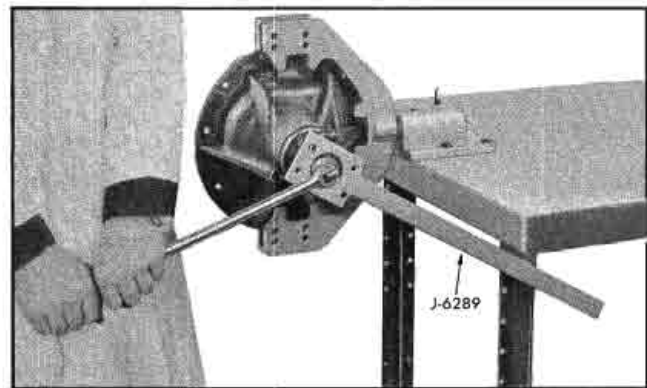

Fig. 4-37 Holding Companion Flange with J-6289
11. Rotate carrier holding fixture J-6571 and remove drive pinion nut and washer, using heavy duty socket and companion flange holding tool J-6289 (Fig. 4-37).